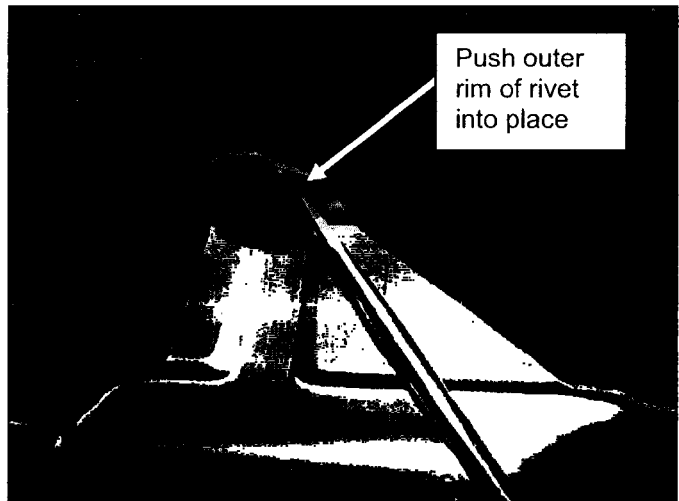

Figure 9
- Use a flat blade screwdriver to firmly push the outer rim of rivet into place (see Figure 9).